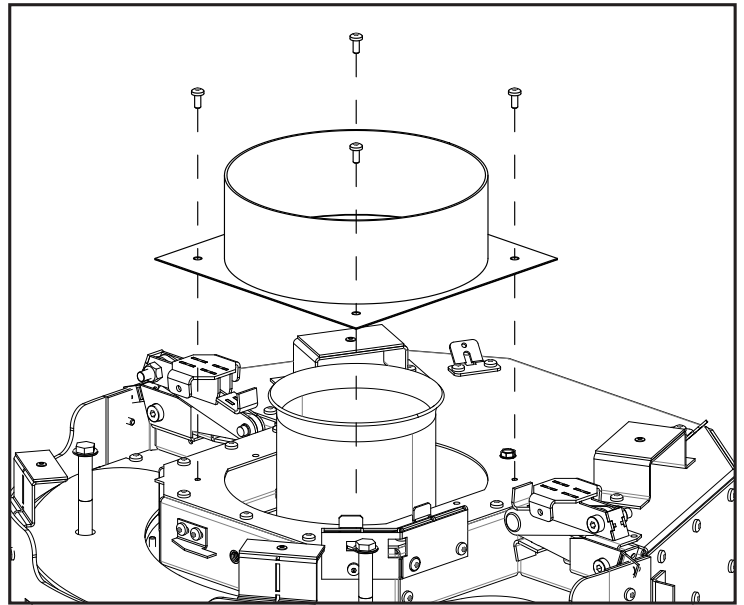

Figure 68: Vent Adapter Removal
7. Remove the vent adapter from the top of the unit by removing the four (4) T20 screws (see Figure 68). Be delicate with the gasket, you will be reusing this.